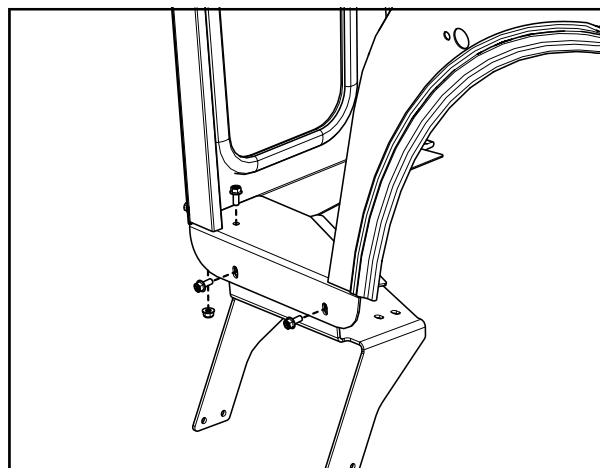

Fig. 6.5 (Left Side frame Installation)
6.5 Fasten the floorboard to the step relocation bracket and cowl with bolts and nut — no plastic washers. See Fig. 6.5. Ensure side frame seals against the tractor fender and tighten hardware.